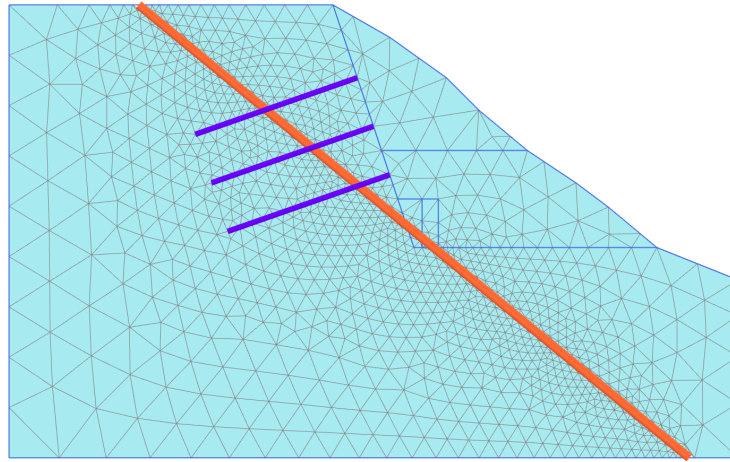

Figure 4-7: The generated mesh
5. Click the **View mesh** button  to view the mesh. The generated mesh is shown in Figure 4-7 \(p. 81\).